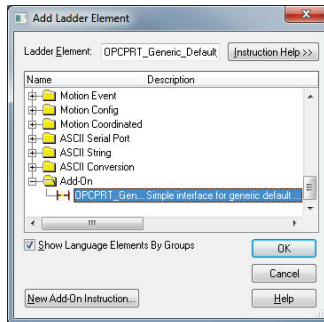

Figure 59: Add Generic Default Add-On Instruction
- 8) Select the generic default I/O add-on instruction in the Add-On folder. Refer to Figure 59.